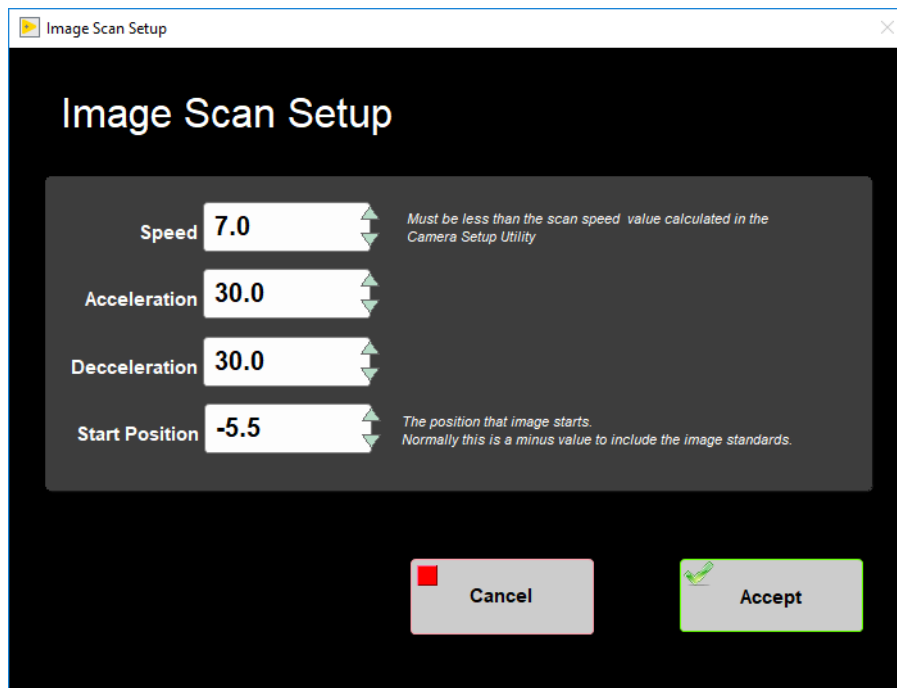

Figure 1. Image Scan Setup window
- DAQ > Image Capture Motion Setup (Figure 1)